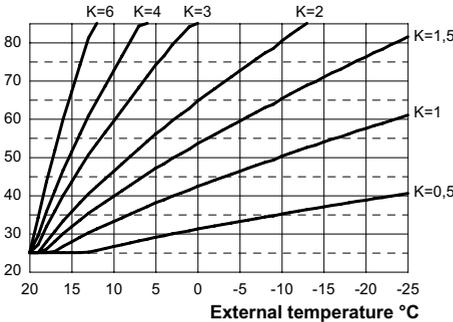

Fig. 7.16
If the boiler is **EQUIPED** with the remote control (optional) refer to Fig. 7.16. In this case K setting must be done from the remote control.
The K coefficients is a parameter that increases or reduces the boiler flow temperature when the outside temperature changes. When installing the external probe it is necessary to set this parameter based on the efficiency of the heating plant in order to optimise the flow temperature (Fig. 7.16). E.g. In order to have a flow temperature at the heating plant of 60°C with an external temperature of -5°C, set a K at 1.5 (sectioned line in Fig. 7.16).
E.g. In order to have a flow temperature at the heating plant of 60°C with an external temperature of -5°C, set a K at 1.5 (sectioned line in Fig. 7.16).
- Using keys 15 or 16 it is possible to change the value of parameter 15 from a minimum of **01** to a maximum of **60** based on the selected bend of the K coefficient in Fig. 7.16